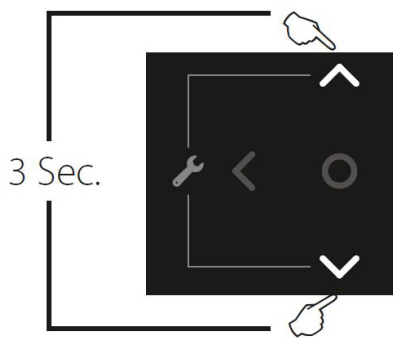

Fig. 9: Installer Button
1. To access the Installer screen, touching simultaneously the up and down soft keys for 3 seconds as shown in Fig. 9.